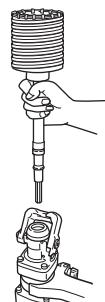
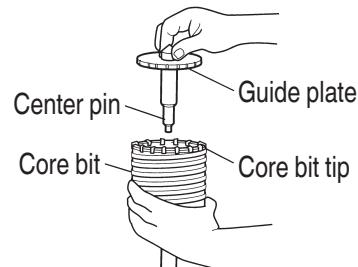

Fig. 14
Fig. 15
- (2) Mount the core bit shank on the main body in the same manner as in mounting the drill bit and the bull point. (**Fig. 14**)
- (3) Insert the center pin into the guide plate until it reaches the extremity.
- (4) Fit in the guide plate by aligning its concaved portion with the core bit tip. When the position of the concave is shifted by turning the guide plate right or left, the guide plate never slips off even when the drill is used in a downward direction. (**Fig. 15**)